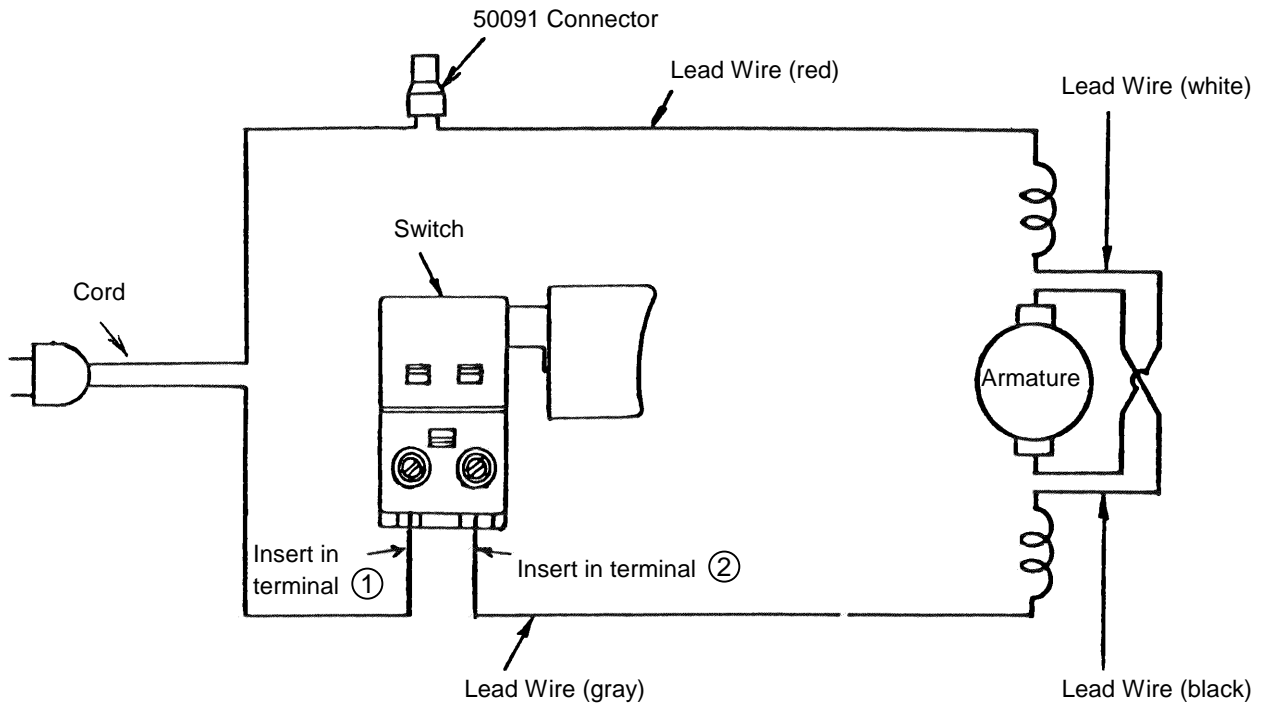

Fig. 13
1-4-1. For units with a 50091 Connector (21), refer to Figs. 13 and 14.